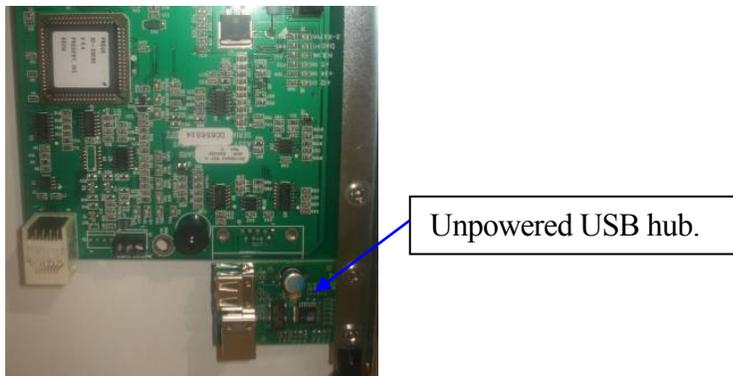

Figure 56
1. Remove the unpowered USB Hub from the bracket inside the control unit if it is installed (see Figure 56 on page 32).